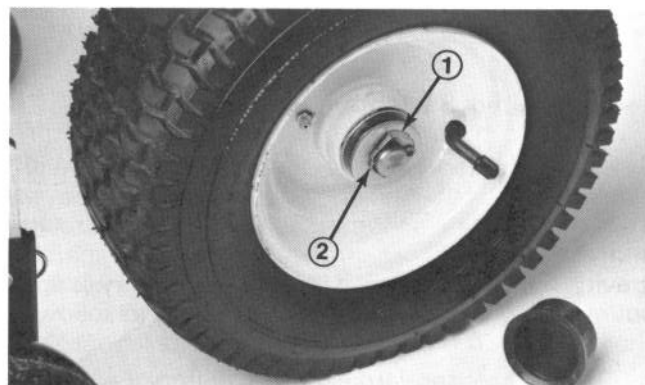

Figure 1
2. Mount flange washer onto axle (flange side out), insert cotter pin and open pin ends with pliers (Fig. 1).